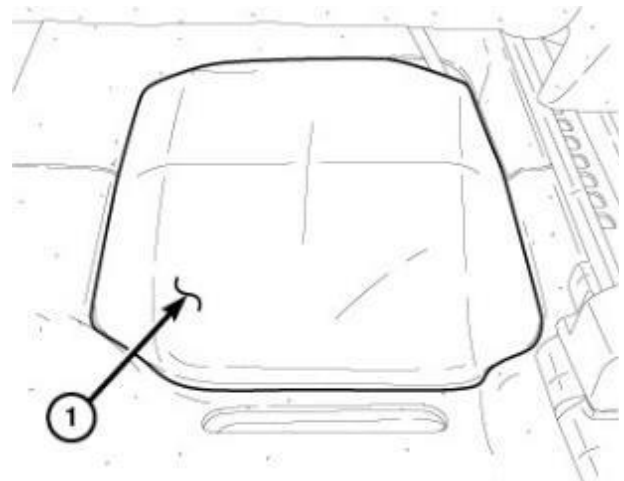

Figure 1 - Battery Cover
3. Remove the battery cover (1) (Figure 1).